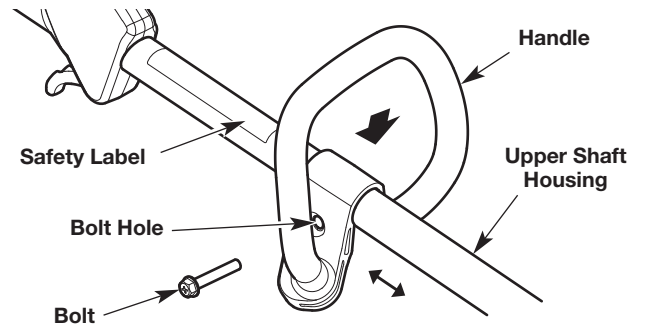

Fig. 8
1. Push the handle down onto the upper shaft housing (Fig. 8). Make sure the bolt hole faces to the right (Fig. 8).
2. Insert the bolt into the bolt hole and push it through (Fig. 8). Tighten the bolt with a flat-head screwdriver, but do not tighten the bolt completely.
3. Hold the unit in the operating position (Fig. 13). Move the handle up or down the upper shaft housing to a comfortable location (Fig. 8). Make sure the handle is positioned beyond the end of the safety label (Fig. 8).
1. Loosen the bolt with a flat-head screwdriver (Fig. 8).
2. Hold the unit in the operating position (Fig. 13). Move the handle up or down the upper shaft housing to a comfortable location (Fig. 8). Make sure the handle is positioned beyond the end of the safety label (Fig. 8).